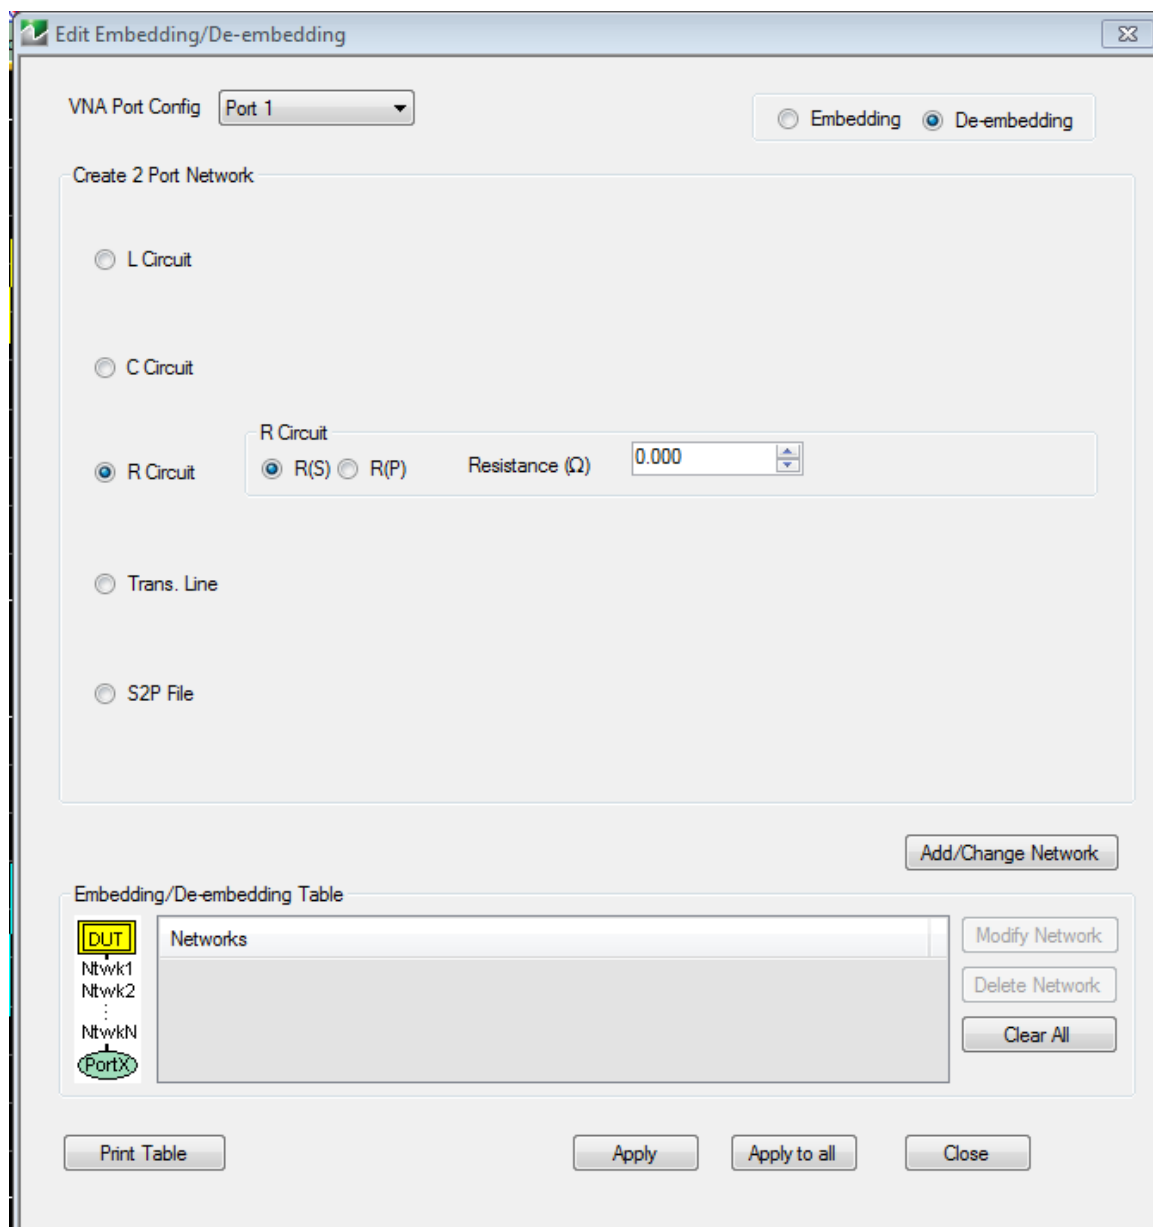

Figure 8-6. EDIT EMBEDDING/DE-EMBEDDING Dialog Box - R Circuit Setup Selected
The entry mode for these resistive elements is shown in the E/DE dialog box below (Figure 8-6). Both series (denoted by an (S)) and shunt (to ground) elements (denoted by a (P) for parallel) are allowed and selectable with the radio buttons. Since this element is symmetric, no orientation knowledge (with respect to DUT port and VNA port) is needed. The default units are: